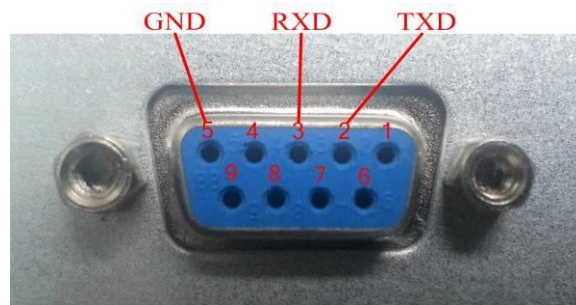

Fig1-4 Female type definition of RS\_232Port
- 2) Female type holes' definition of RS\_232Port is shown in Fig1-4.